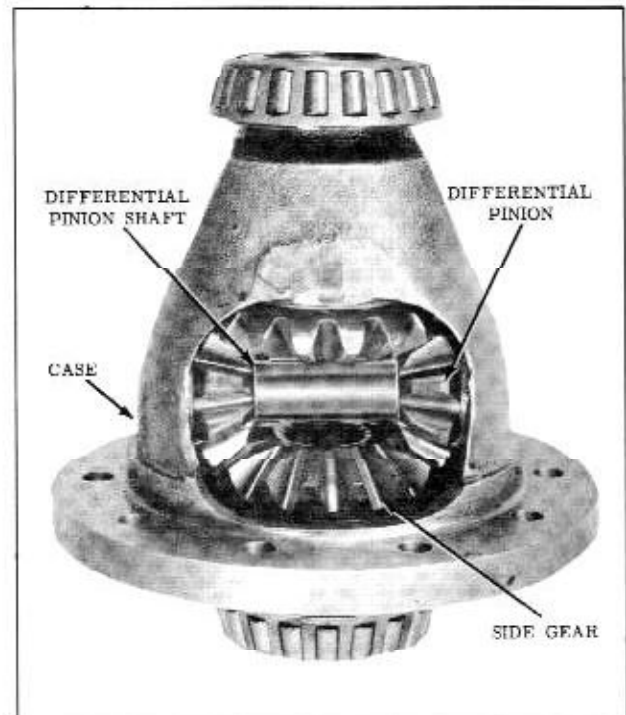

Figure 6-13 Case Assembly
2. Position one pinion (without washer) between side gears and rotate gears until pinion is directly opposite from loading opening in case. (Fig. 6-13) Place other pinion between side gears so that pinion shaft holes are in line, then rotate gears to make sure holes in pinions will line up with holes in case.